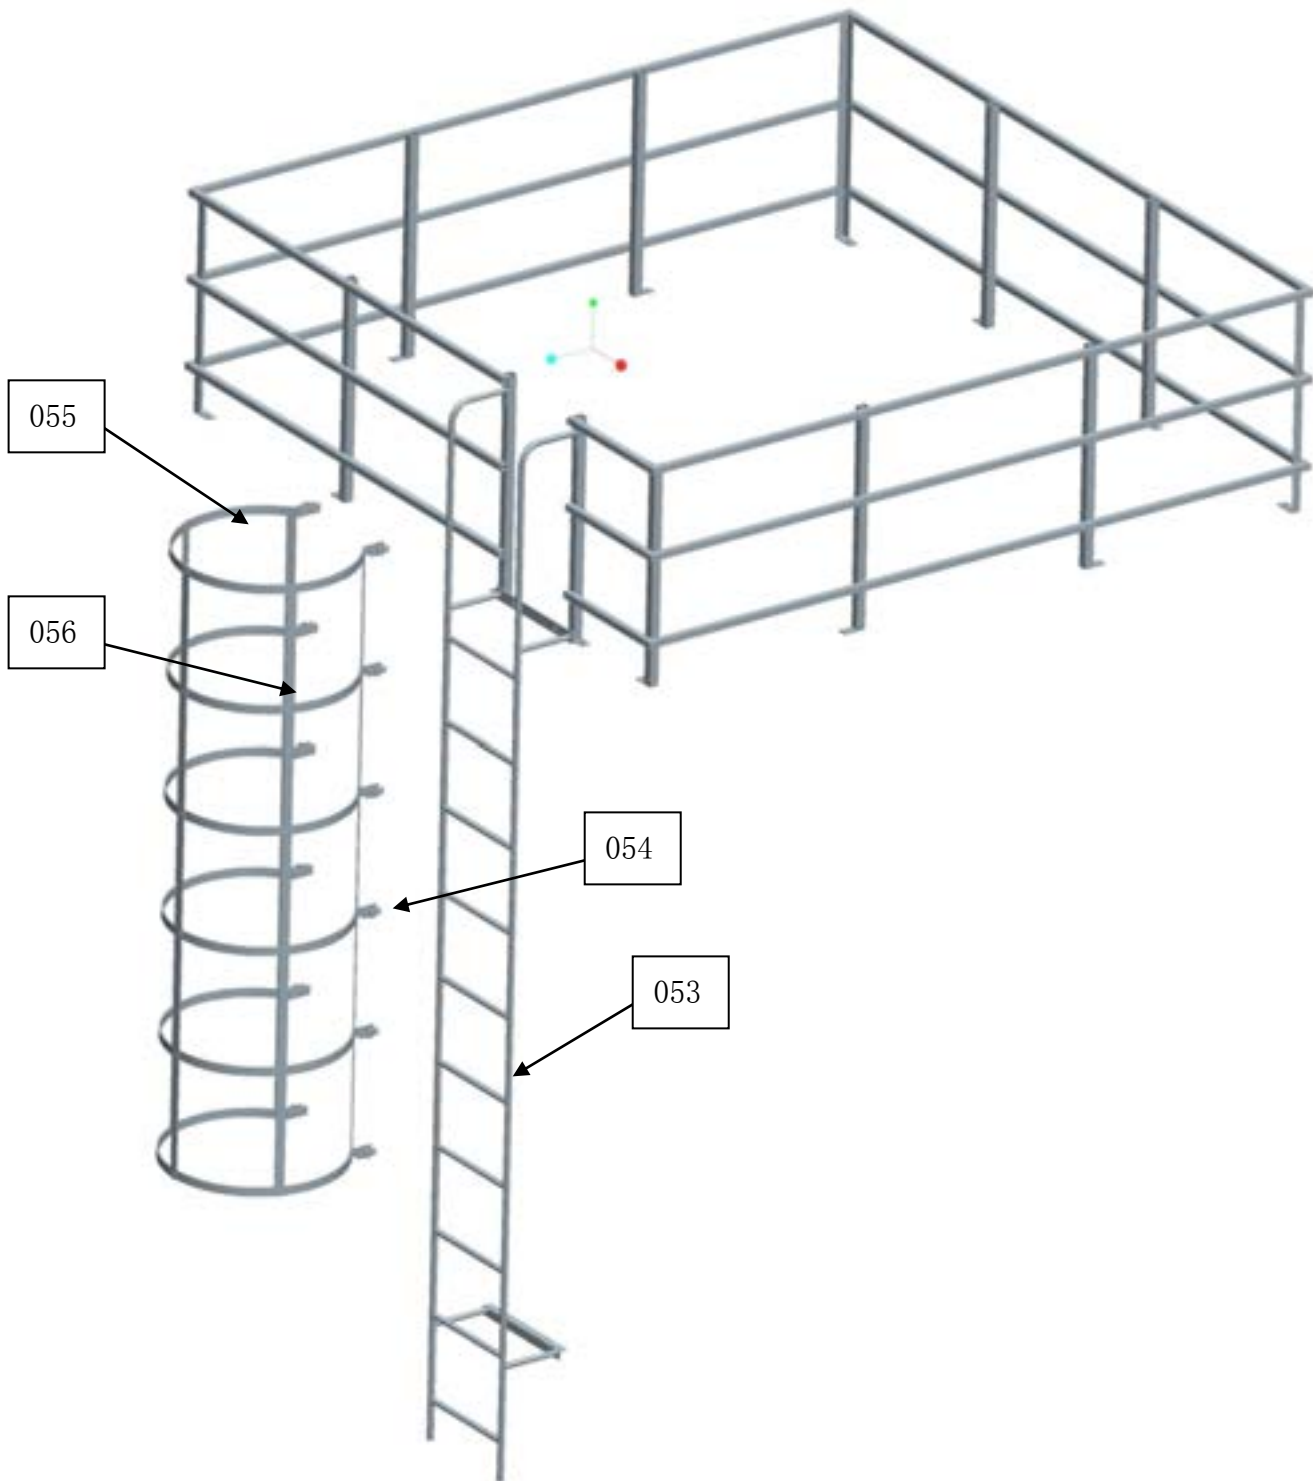

Figure 20
- 2) Install safety cage and ladder (see figure 20)